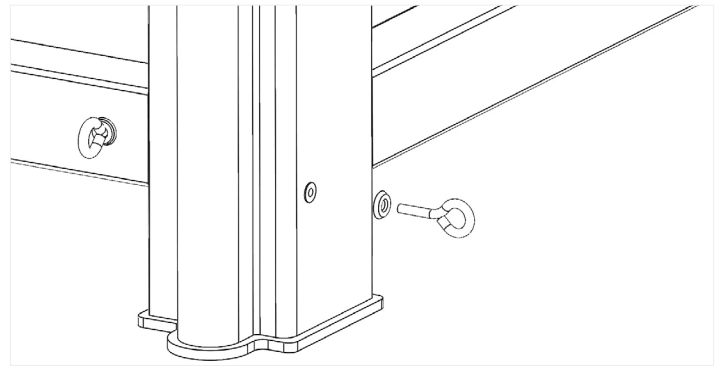

Figure 2: Eye Bolts and Finish Washer
- Note this frame is very heavy. It is recommended to have a minimum of (2) people to lift and move the base frame.
- Find the provided Eye Bolts and Finish Washer and install in the legs as shown, one on each Foot End Leg. Tighten the eye bolts by turning clockwise. Once the bolts start to get tight, continue to spin them and orientate them so they are vertical. See Figure 2.